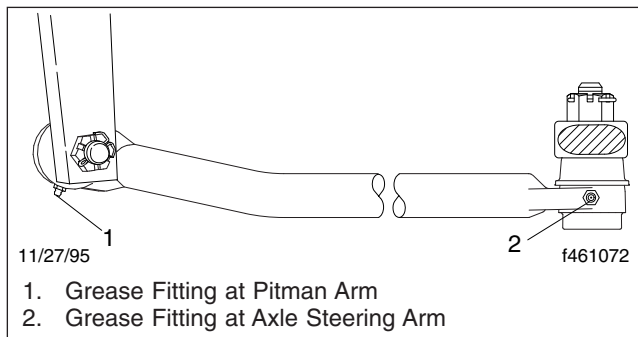

Fig. 3, Drag Link
2. Using a clean rag, wipe all dirt from both drag link grease fittings. See Fig. 3.